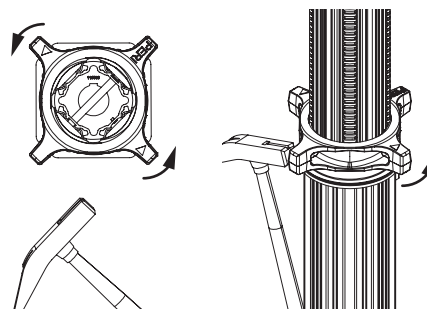

Fig. A7.01a
- Hammering on lowering cams (Fig. A7.01a)